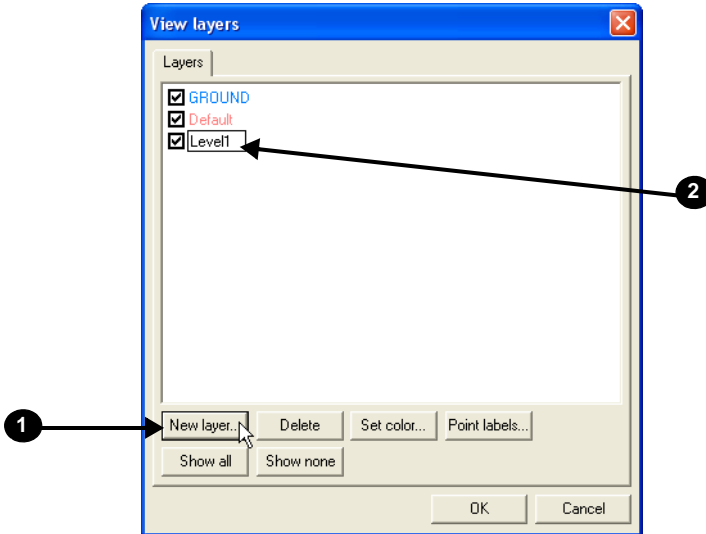

Figure 2-7. Add New Layer to 3D Project
2. Type a name for the layer (Figure 2-7) and press **Enter**.